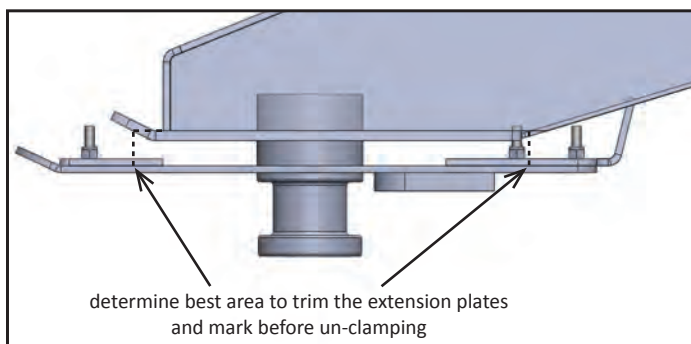

Figure 3
5. While clamped to the king pin box, mark the extension plates where they need to be trimmed for the best fit (see Figure 3).